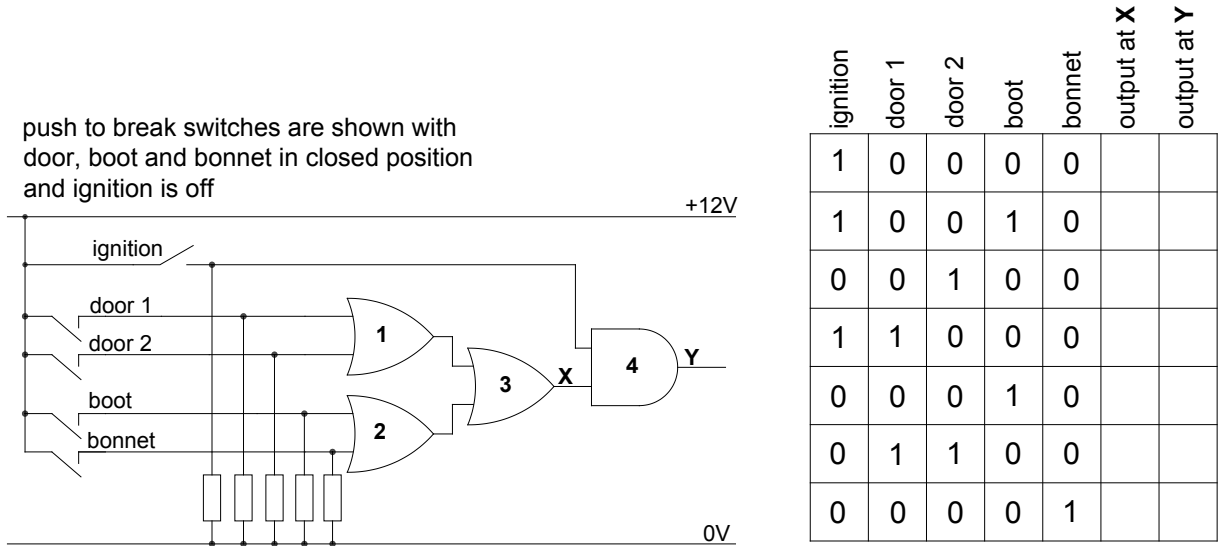

Fig. 13
- (b) Many vehicles now give a warning signal if a door, boot lid or bonnet is left open and the car ignition is switched on. A logic circuit for detecting this is shown in Fig. 13.